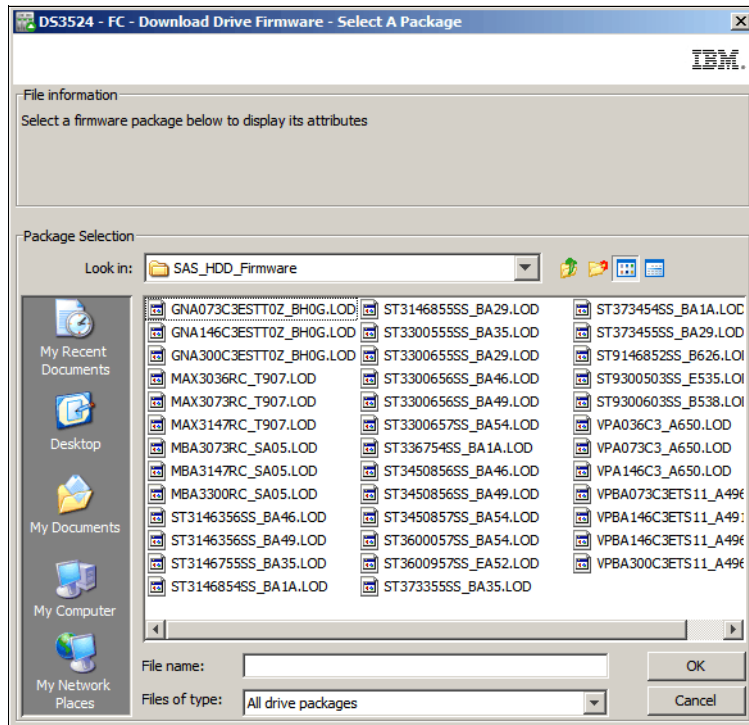
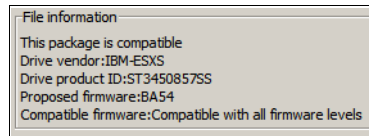
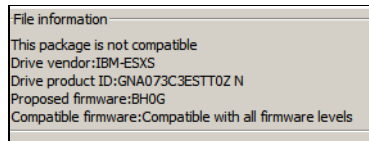

Figure 14-82 Download Drive Firmware - Select A Package
Figure 14-83 Drive firmware is compatible
Figure 14-84 Drive firmware is not compatible
3. Click **Add** to open the **Select A Package** window (Figure 14-82) and browse to the folder that contains the drive package files.
As you highlight each package listed in the window shown in Figure 14-82 on page 382, the **File Information** section will report if the selected drive firmware package is Compatible (Figure 14-83) or Not Compatible (Figure 14-84) with the types of drives that are installed in your system.